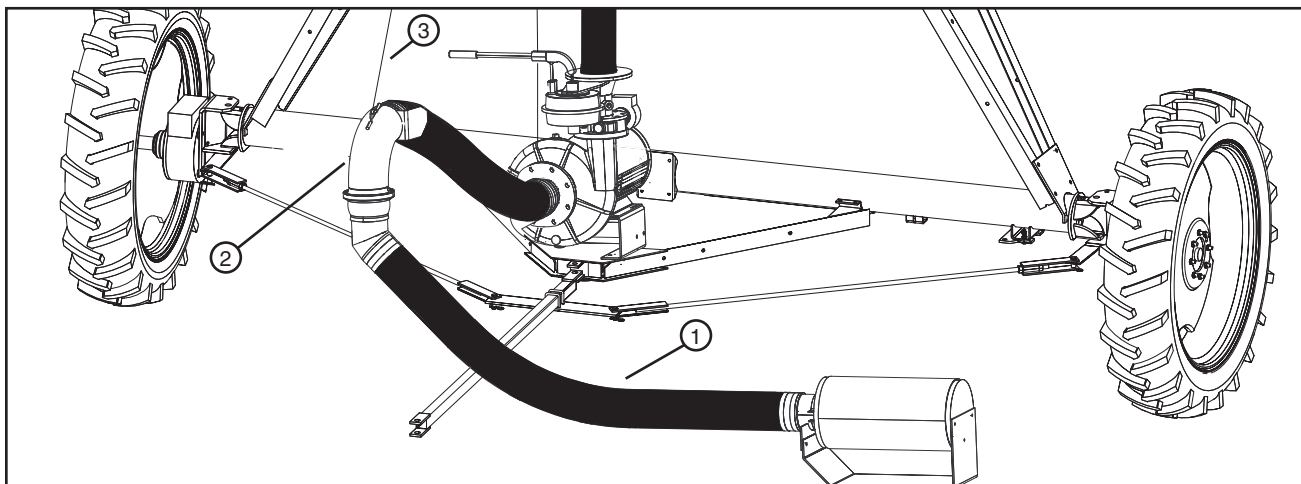

Figure 84-3 1. Inlet Suction Hose 2. Elbow Inlet (Inlet in Up Position) 3. Lift Cable
- Use the lift cable to lift the elbow inlet up. See figure 84-3.
- Disconnect the inlet suction hose from the elbow inlet to prevent damage. See figure 84-3.